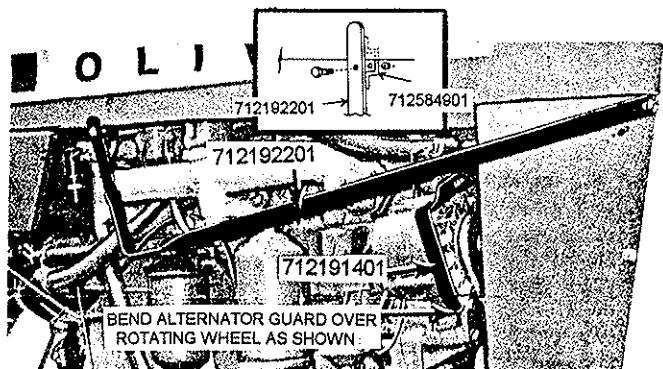

FIGURE 4
1. Bolt #712191401 alternator guard to alternator using 5/16" x 3/4" hex head bolt and nut. Bend guard forward or back so it prevents rotating wheel from cutting vinyl. See Figure 4.
2. Bolt #712192201 exhaust guard to front of tractor using bolt in tractor. Then bolt #712584901 clamp to exhaust guard and over sheet metal of tractor using 5/16" x 1 1/2" hex head bolt and nut. See Figure 4.